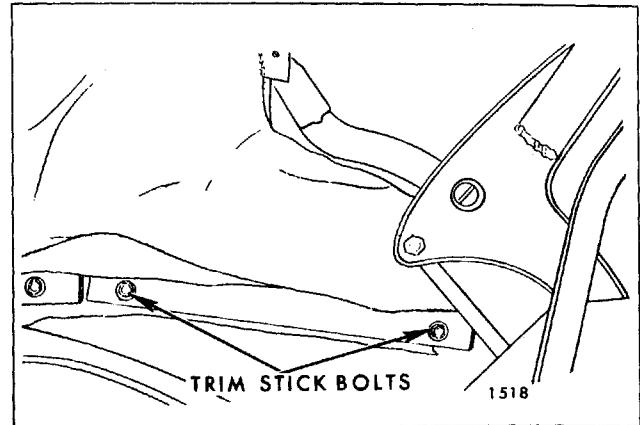

Fig. 6-34—Rear Quarter Trim Stick
17. At each rear quarter area remove attaching bolts securing rear quarter trim stick assembly to rear quarter inner panel (Fig. 6-34).